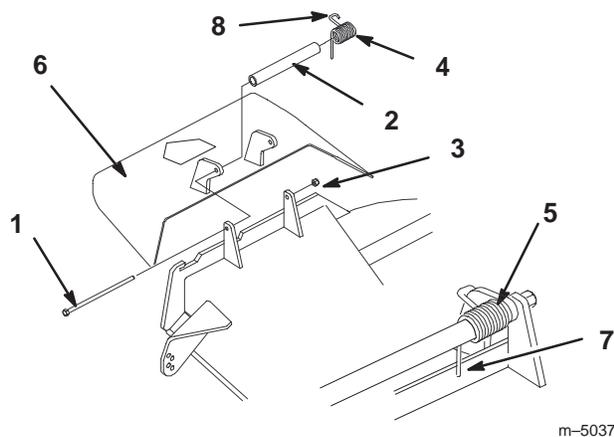

Figure 72
- Remove the locknut, bolt, spring and spacer holding the deflector to the pivot brackets (Fig.72). Remove damaged or worn grass deflector.
Note: Make sure the straight end of spring is installed behind deck edge before installing the bolt as shown in figure 72.
- Install bolt and nut. Place hook end of spring around grass deflector (Fig. 72).